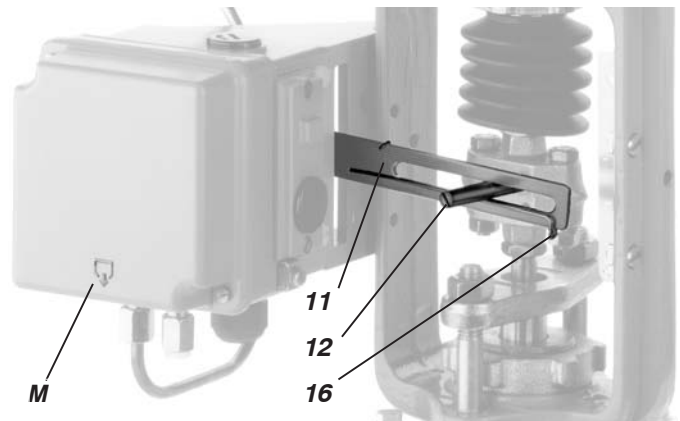

Fig. 12: Take-off point of the positioner (mounting side left)
- a) Screw the carrier bolt **12** into actuator coupling (see Fig. 12).
- i) **Fasten housing cover in such a way that air vent of attached device faces downwards** (see Mark '**M**' in Fig. 12).